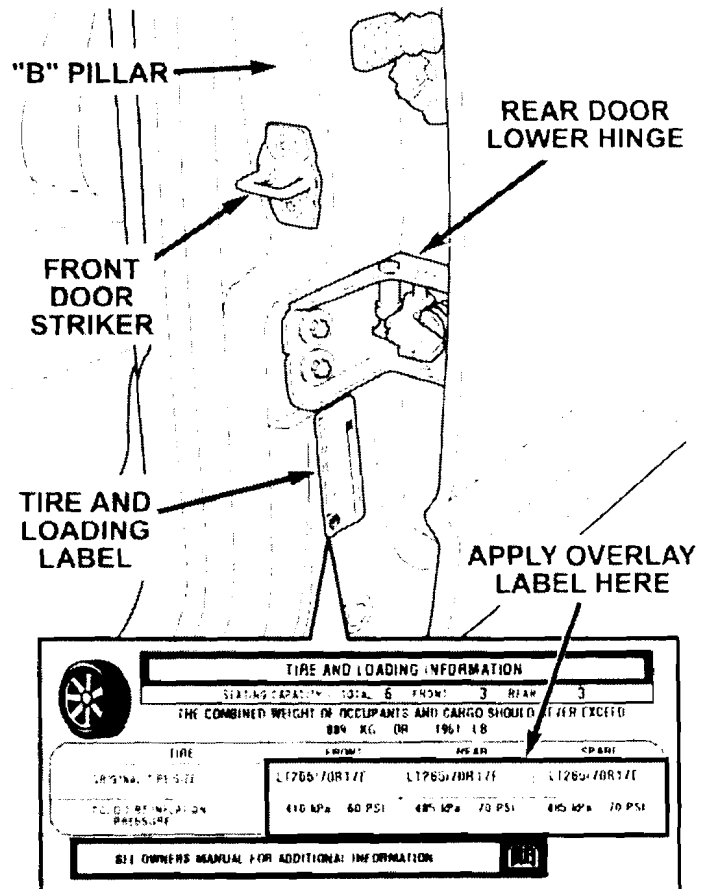

Figure 2 – Four Door Model Shown
7. Locate the Tire and Loading Information label on the “B” pillar (Figure 2).
9. Remove the Tire and Loading Information label overlay from its paper backing and carefully install it on the original label covering the incorrect tire inflation pressure information (Figure 2).